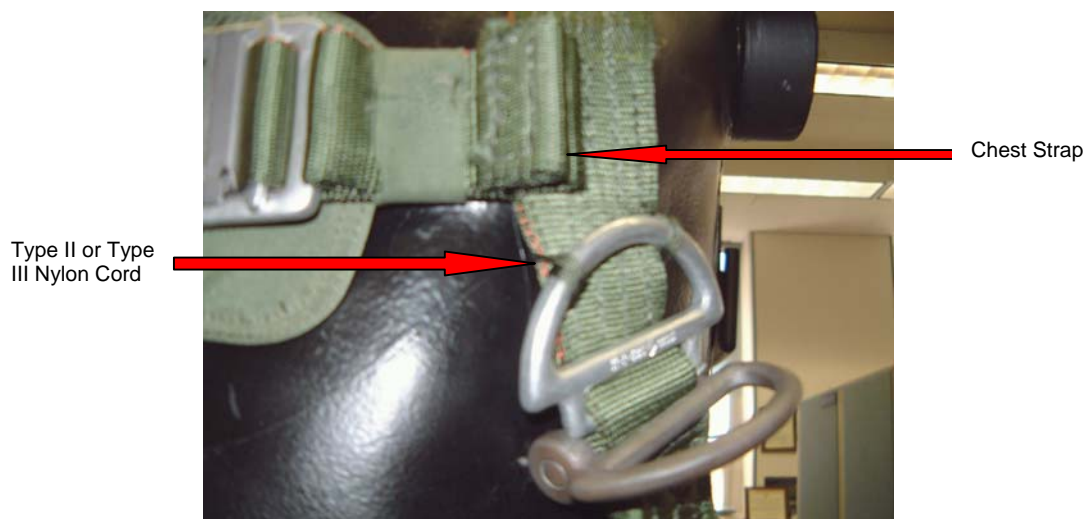

FIGURE 5
(1) Retrieve one length of type II or type III nylon cord. Route one end of the type II or type III nylon cord from top to bottom twice around the curved portion of the D-ring. Route the opposite end behind the main lift web, below the chest strap, and from top to bottom, pass the running end twice around the curved portion of the D-ring. Pull on both running ends ensuring the routed portions are pushed as high as possible on curved portion of the D-ring. Pass both running ends behind the main lift web and below the chest strap. Push the D-ring against the main lift web. Secure them with a surgeon's knot locking-knot with overhand knots in the running ends. Trim the ends to 2-inches (Figure 5).